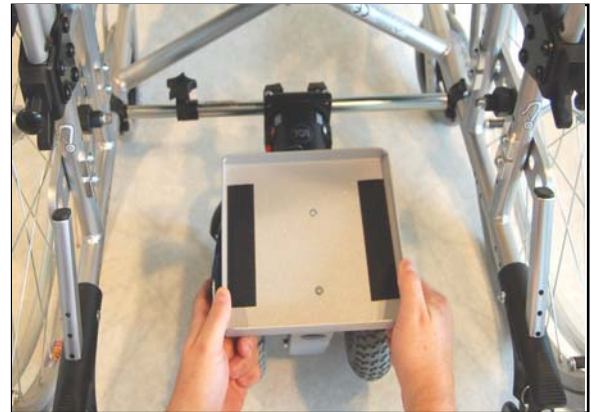

Fig 4 Attaching Crossbar
8. Ensure wheelchair brakes are on and fit the Powerpack complete with crossbar on to the wheelchair by holding it in position and placing the right hand end of the crossbar over the mounting bracket (Fig 4). Allow the spring to extend the left hand tube over the other mounting bracket and lightly tighten the hand wheel (Fig 3E). To avoid damaging the crossbar, do not over tighten. The crossbar must always be fully extended against the mounting brackets to ensure safe attachment to the wheelchair frame. The wheelchair should always be fully extended prior to attaching the Powerpack and once the chair has been sat in, ensure that it has not expanded further and that the crossbar remains fully extended against the mounting brackets.